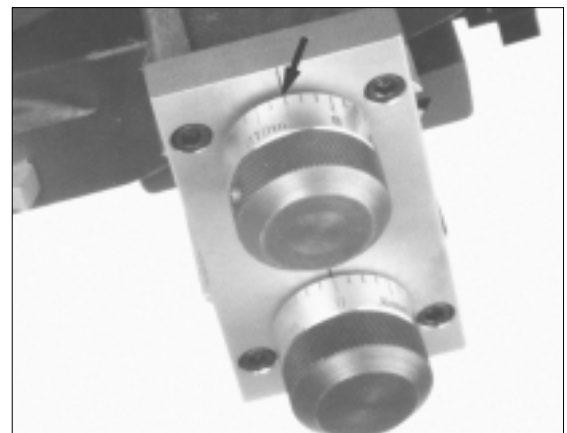

Figure 17
13. Turn the depth-of-cut knobs individually to set each cutting bit to the desired depth-of-cut (usually .006" per side or three divisions of the micrometer), Fig. 17.